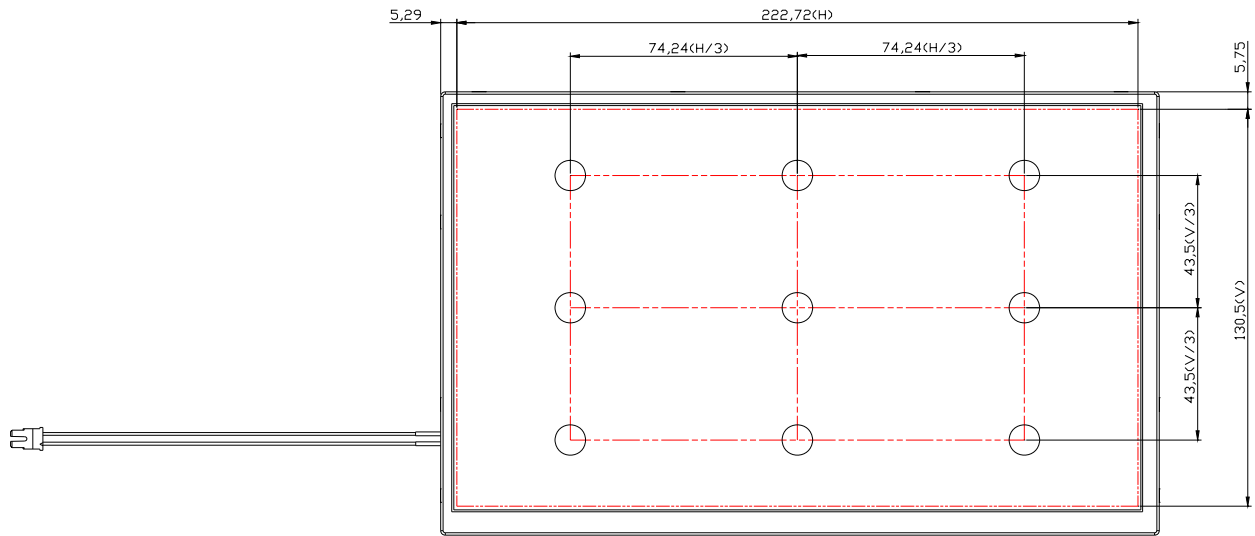

Fig8-1 Measuring point
- 3) Definition of luminance : Measure white luminance on the point 5 as figure8-1